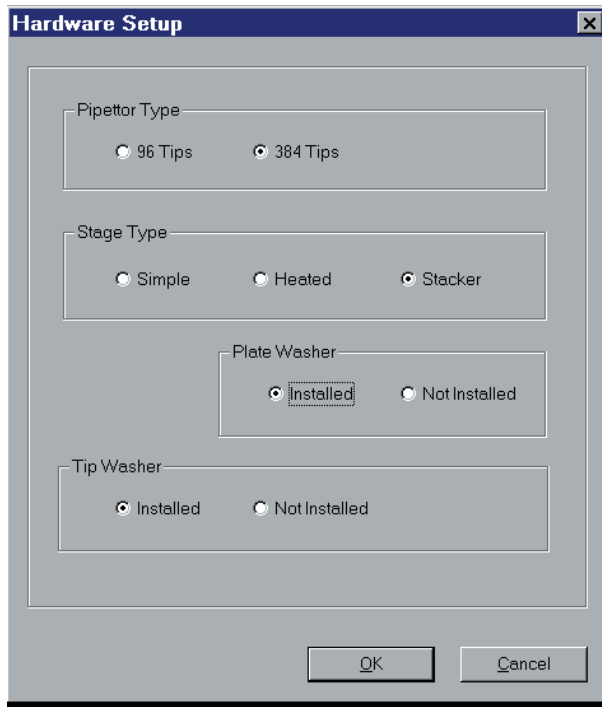

Figure 6-7: The **Hardware Setup** dialog box
- 1) Select **Hardware** from the **Setup** menu to open the **Hardware Setup** dialog box (Figure 6-7).